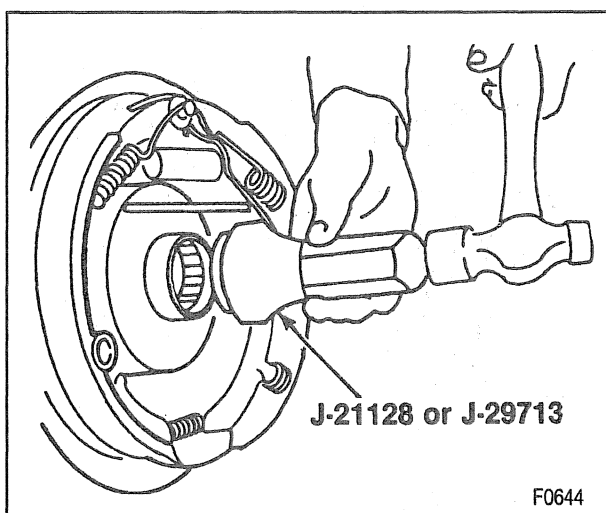

Figure 13—Installing the Seal
- Drive the tool into the bore until the seal bottoms flush with the end of the tube (figure 13).